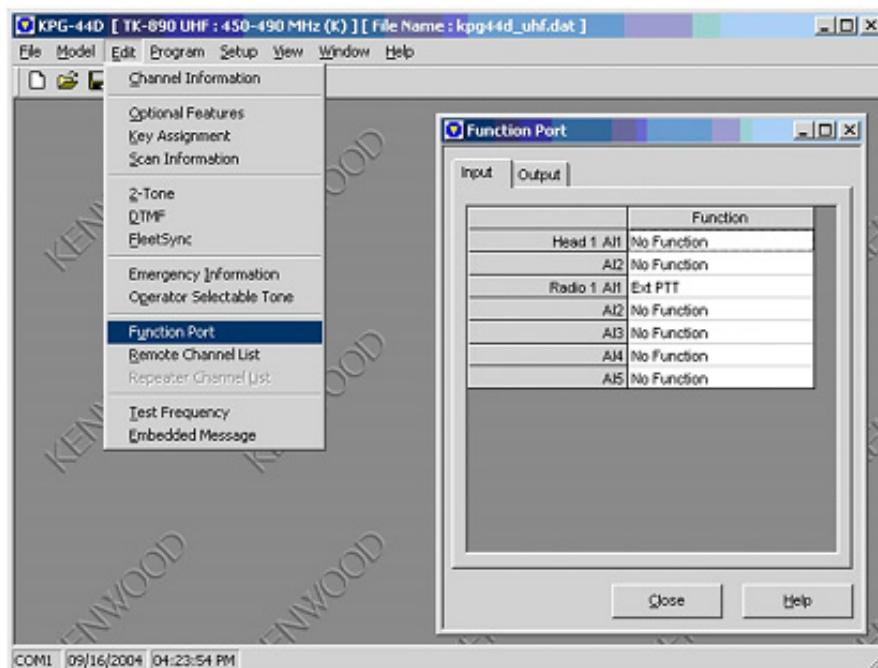

FIGURE 13. TK-x90 Function Port Input
1. Program the **Function Port window for Ext PTT in Radio 1 AI1** (Figure 13).